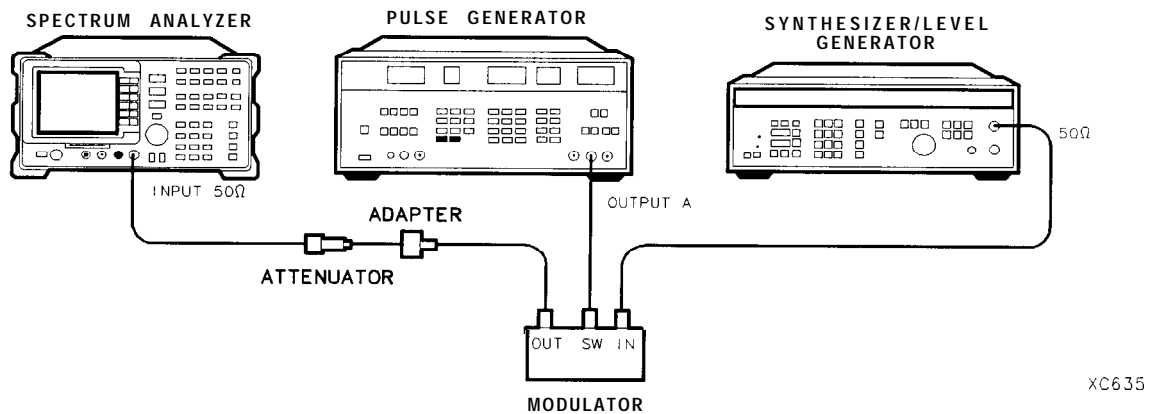

Figure 2-102. Isolation Check Test Setup
11. Connect the equipment as shown in Figure 2-102.